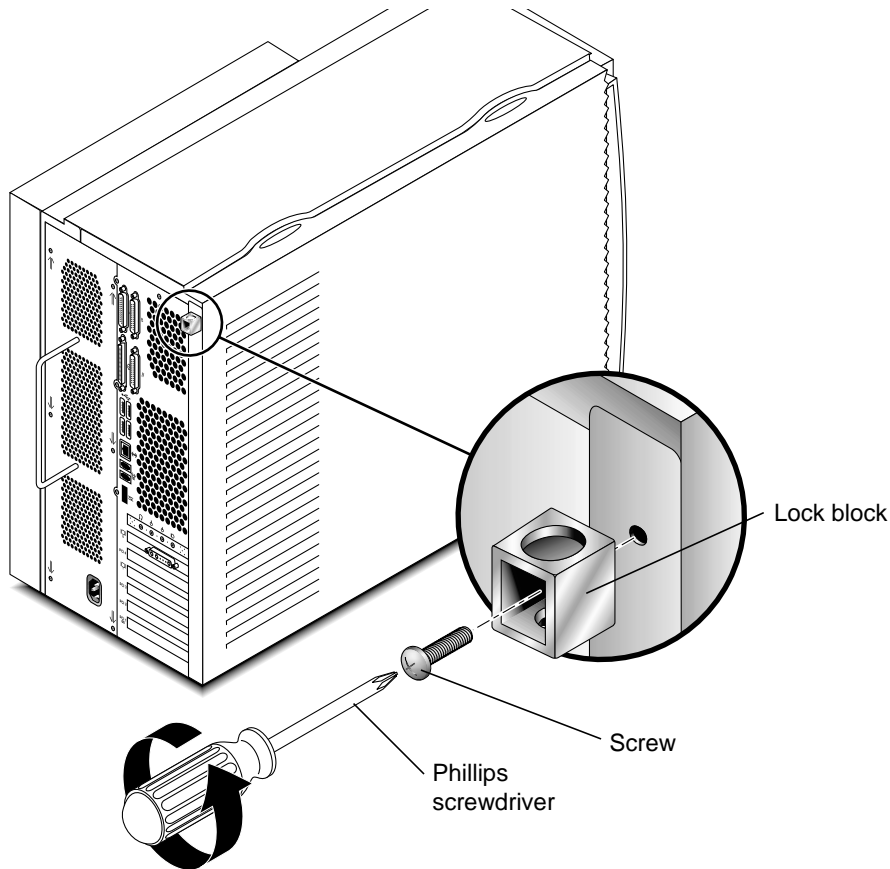

FIGURE 7 Removing the Lock Block
1. Remove the lock block, if one is installed (see FIGURE 7).
3. If desired, install a lock block on the back panel of the workstation. See FIGURE 7.